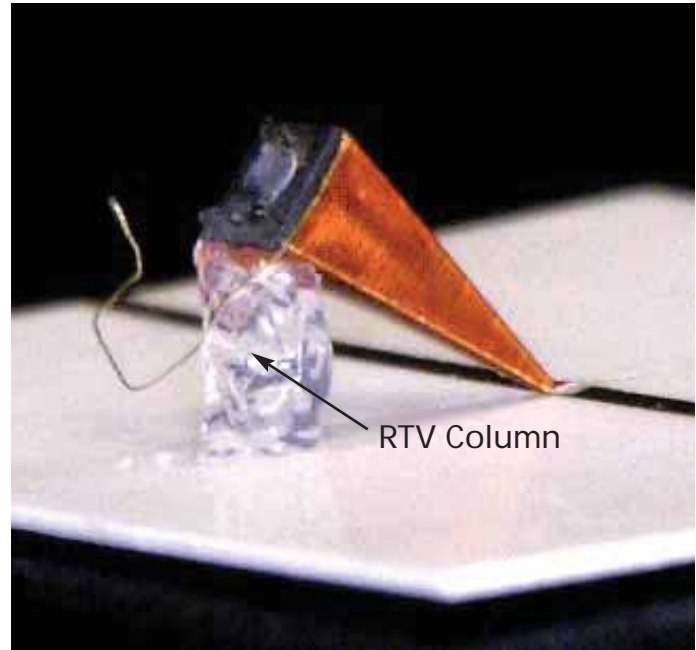

Figure 6: The RTV-mounted coil
5. Move the coil out of the way and using the smallest nozzle opening, create a uniform column to the desired height as shown in **Figure 6**. Carefully reposition the coil and allow it to rest on the top of the column until the sealant cures (approximately 4 hours).